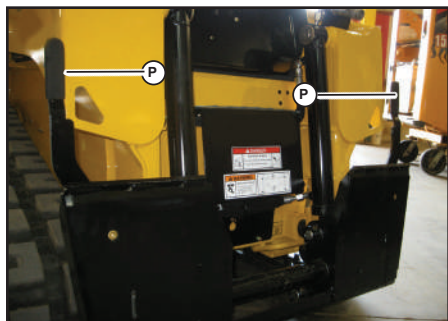

Fig. 34 - Hitch for Attachments
1. Rotate the latch levers (P, Fig. 34) to a vertical position to fully retract the latch pins.